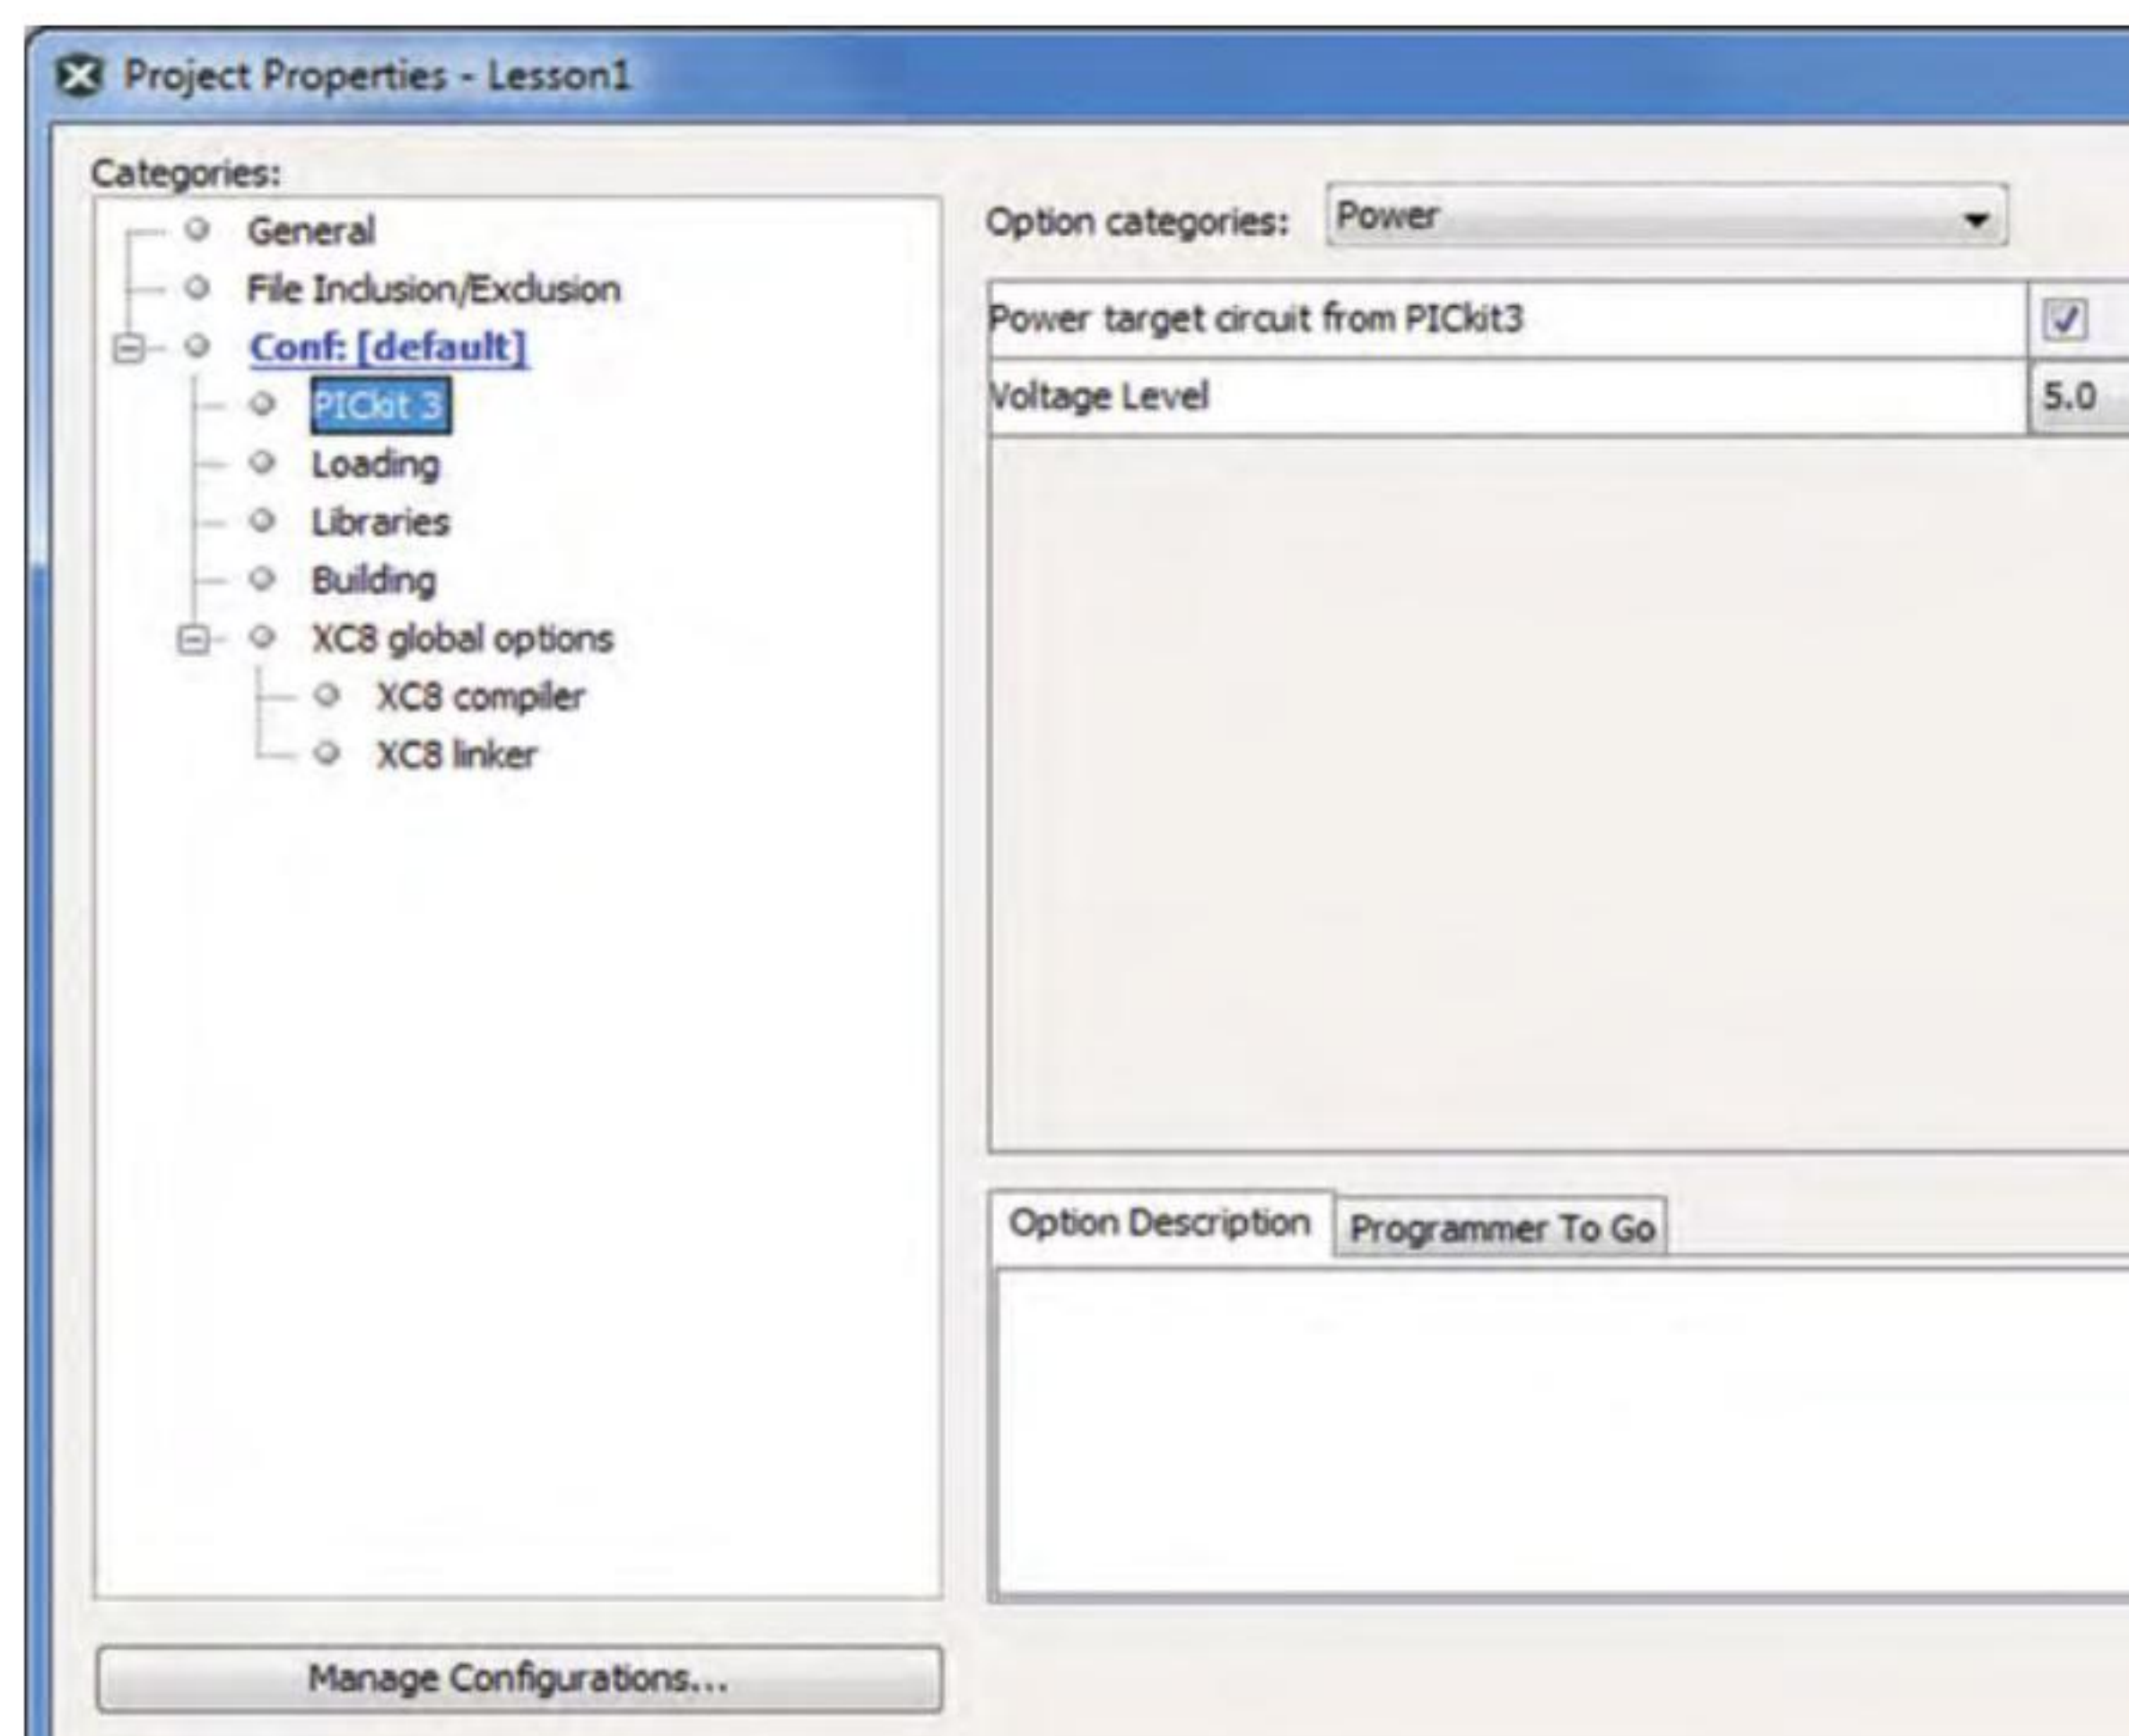

Fig.5. Lesson 1 Project Properties → Power Target circuit from PICkit 3)
1. This can be achieved by opening Project Properties in the File menu. This opens up our Project Properties window, seen in Fig.5.